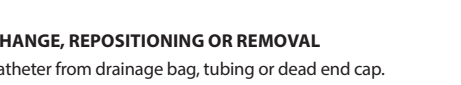

Figure 7
7. To engage the suture locking mechanism: Pull the suture until desired pigtail is formed. Rotate the suture locking mechanism distally to hold the suture in place. See Figure 7.